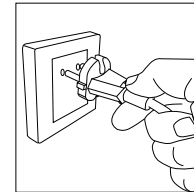

figure 1
1. Plug-in the sander's AC power cord to the power source (220-240V a.c. output). - see figure 1.